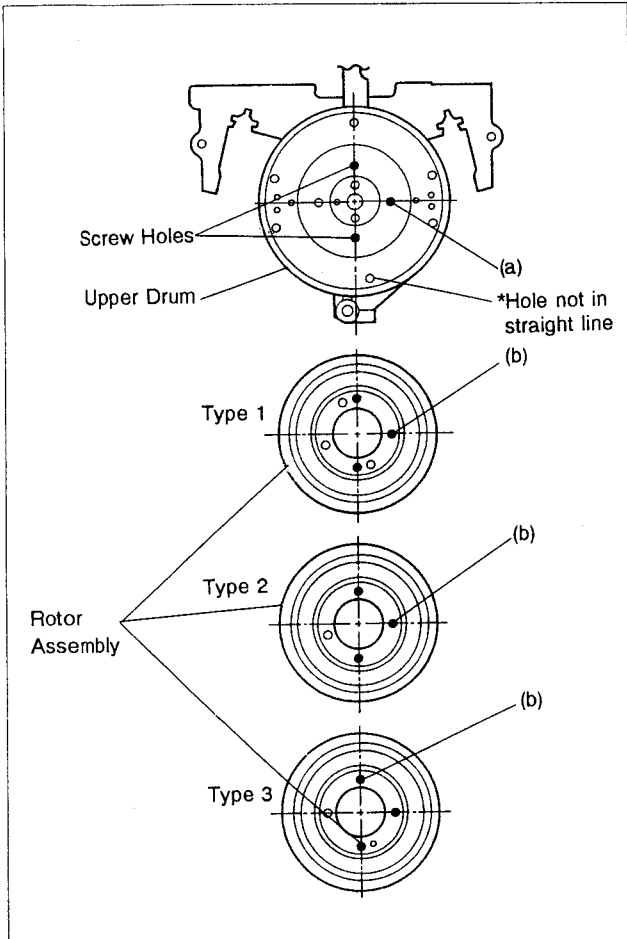

Fig. 2-6-3 Rotor assembly-2
- 3) Align the Upper Drum and Rotor Assembly phase as indicated in Fig. 2-6-3.